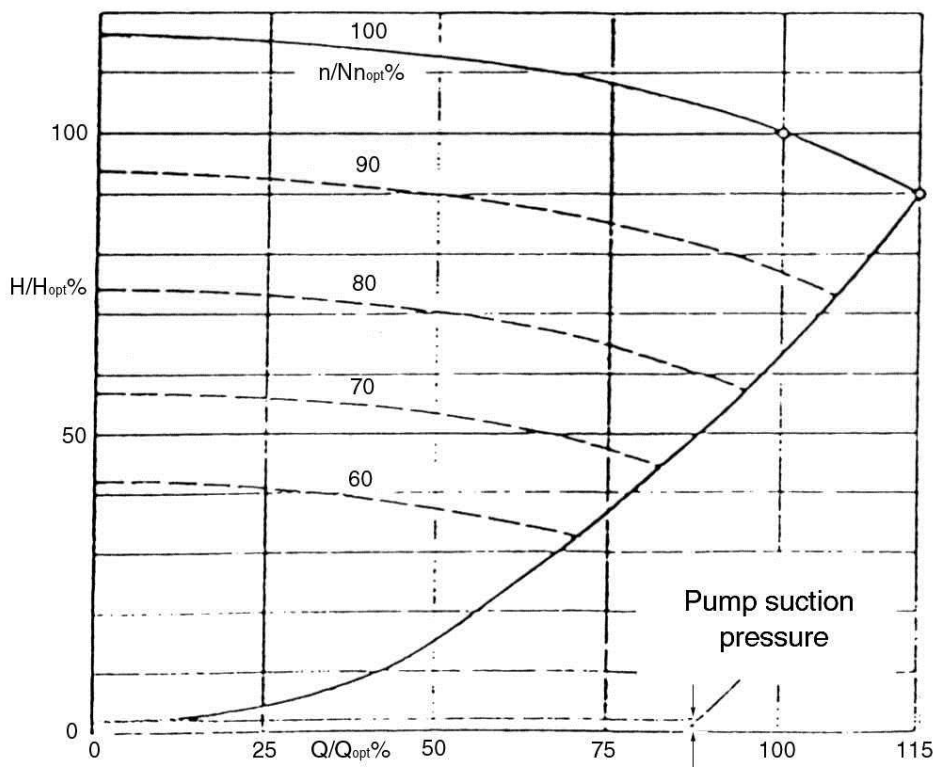

Fig. 44 - Pump operating diagram
2. Pumps operating at variable (controlled) speed may only be operated within the range indicated in the pump-operating diagram below. It should be noted that the throughput, which can be, achieved decreases with decreasing speed and pressure (see. Fig. 44).